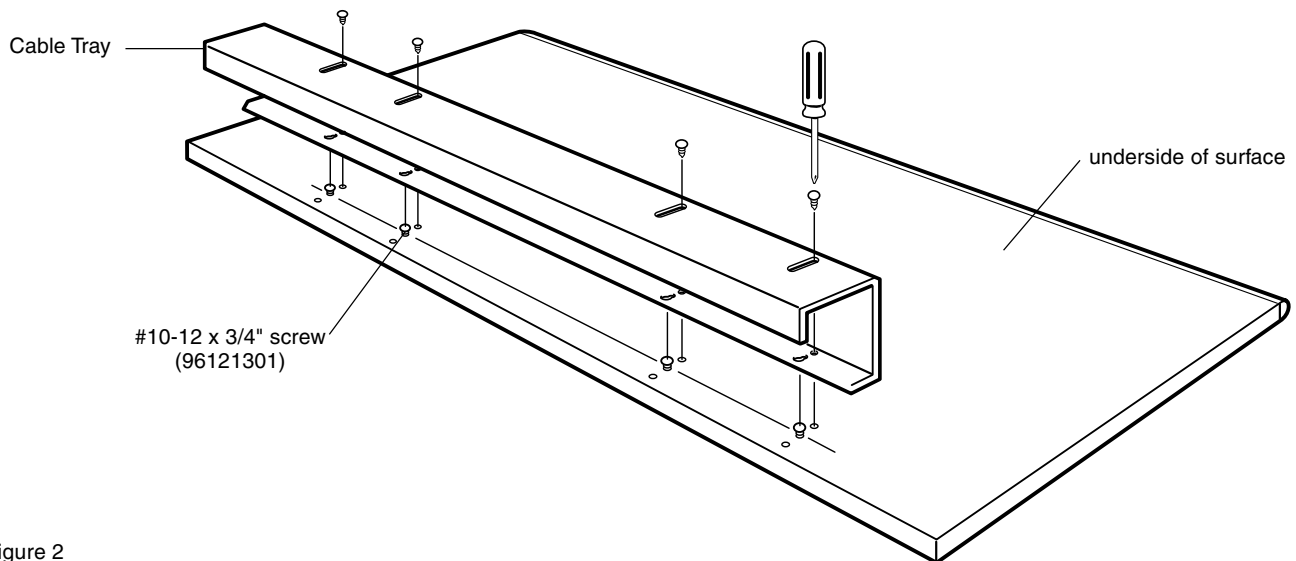

Figure 2
3. Install four (4) additional screws along side the existing screws to securely hold Cable Tray in place. (Figure 2)